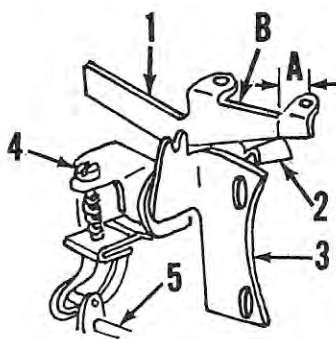

Fig. Mc50—Schematic view of synchronizing linkage used on Fishing Scott motors. See text for adjustment details.
On Fishing Scott motors refer to Fig. Mc50. With the engine not running, turn the speed control grip to the "SLOW" position, then in the opposite direction until the speed control cam (1) attached to the magneto stator plate contacts the cam follower arm (2). On 1960 models equipped with Tillotson carburetor, follower arm should contact cam at a point approximately $\frac{1}{8}$ inch from end of cam as shown at (A). On later models with Marvel-Schebler carburetor, follower arm should contact cam at scribe line midway between the two cam attaching lugs as shown at (B). On all models, adjust by turning the adjusting screw (4).